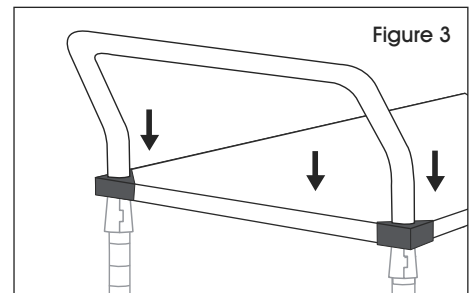

Figure 3
3. After snapping together all of the shelf supports at the proper height, slide the shelf down over the supports to secure the shelf. (See Figure 3)